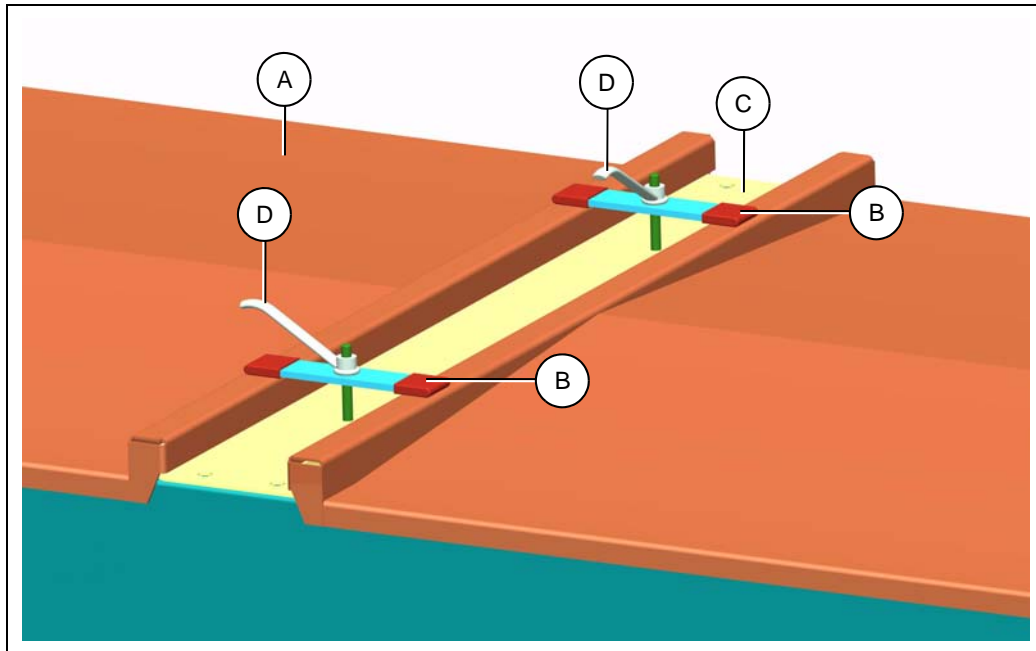

Figure 4B
- Intermediate sections bolt together along the side and bottom flanges. The covers are fastened to the cover channels by flat clips and easy grip handles. (See Figure 4B.)